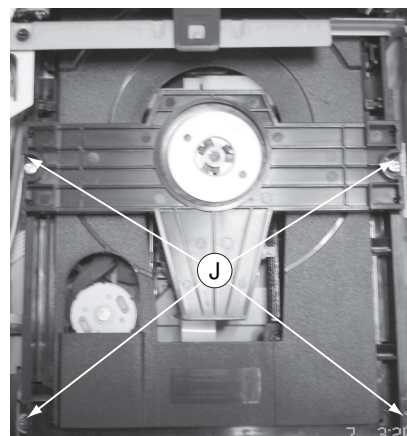

Figure 14
- 1) Loosen 4 screws “J” at the DVD module as shown in figure 14.